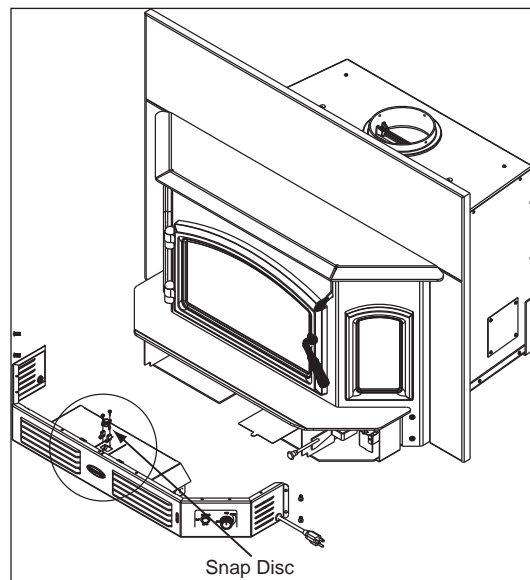

Figure 23.2 Snap Disc Location
1. The snap disc bracket assembly is located on top of the blower housing in the center. **Figure 23.2.**